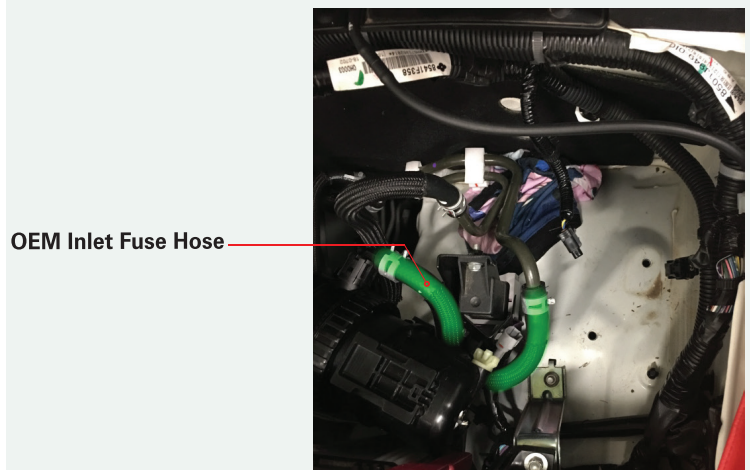

FIGURE 3
- 6 Remove the OEM fuel supply hose & hose clamps (highlighted green in FIG. 3). Have a rag ready as some fuel will spill from the hose and pipe.